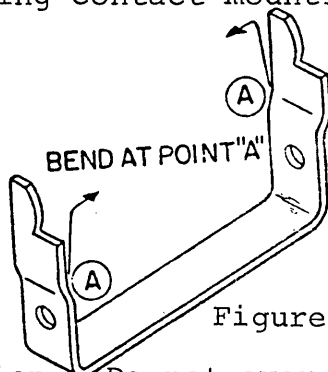
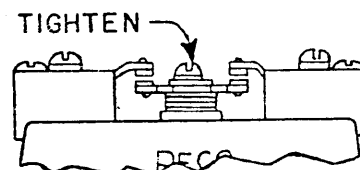

Figure 1
Figure 2
2. Check for binding armature by manually depressing the armature and watching for full closure of the contacts. Form ears (Figure 1) at the end of the restoring bail for free operation. Check the operating contact mounting screws for snugness. Fig. 2.
Caution: Do not over tighten, Fig. 2. Failure of the K contact will result in no ready light.